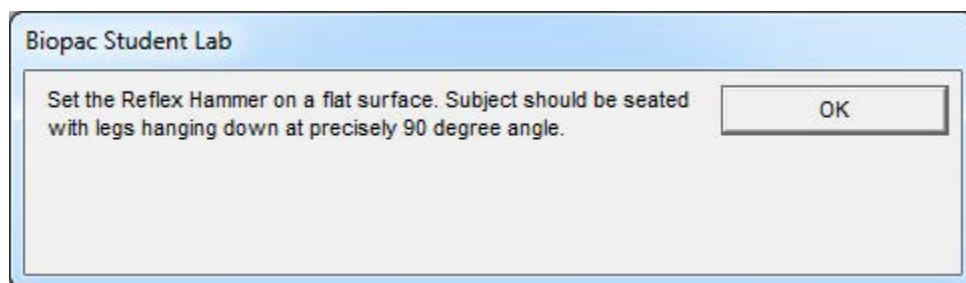

Figure 5: Calibration procedure
3. A pop-up window will open confirming that the subject is positioned properly (Fig. 5). Make sure the subject is relaxed and the hammer is placed on a flat surface.